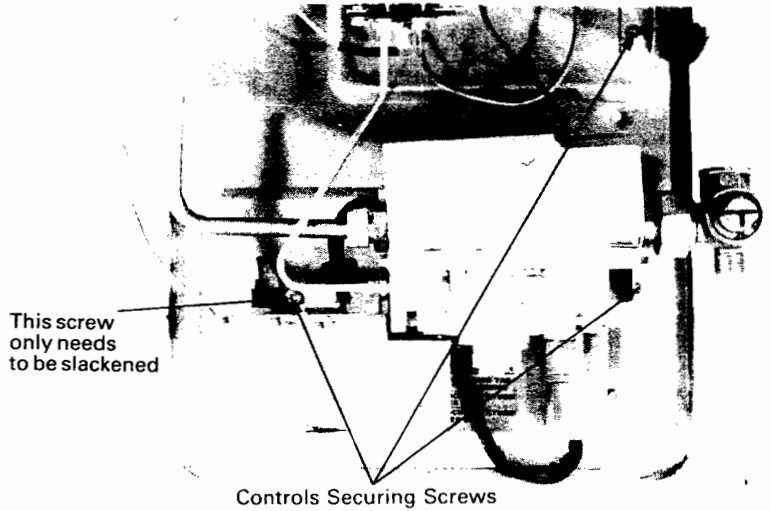
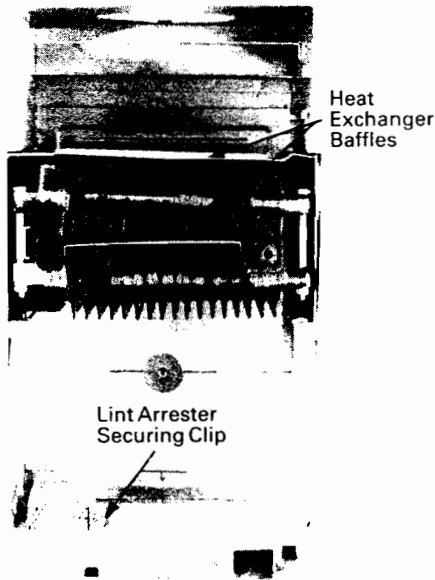

Fig. 16. Securing Screws
Fig. 17. Combustion Chamber
8. Remove the burner and controls complete. (three screws) (Fig. 16) and remove the clip securing the lint arrester to the base of the appliance (Fig. 17).
9. Slide out the heat exchanger baffles (Fig. 17).
- 1in diameter x 2½in long bristle brush.Brush out the bottom of the combustion box and then replace the insulation panels and the heat exchanger baffles. (Fig. 17).